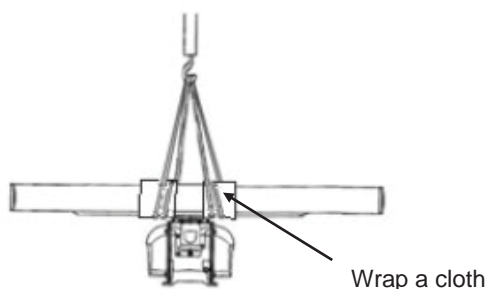

Fig.2-2 Lifting the Antenna
- When lifting the antenna (Fig.2-2) :